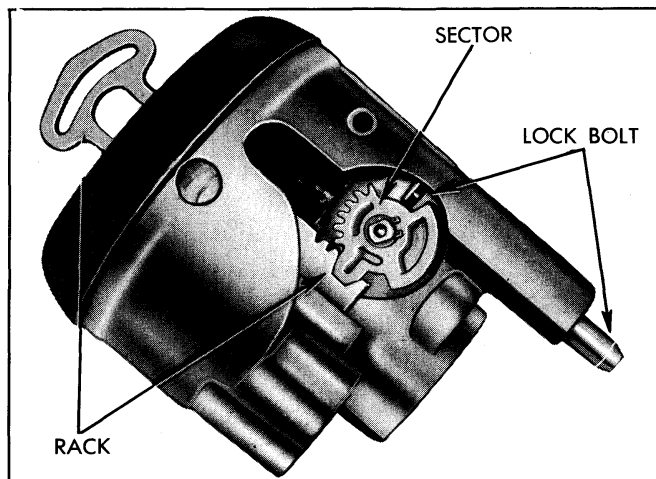

Fig. 3B-95--Installing Lock Bolt and Rack Assemblies
e. Install the lock bolt and engage it with the sector cam surface. Then install the rack and spring. The block tooth on the rack should engage the block tooth on the sector (fig. 3B-95). Install the external tilt release lever.
f. Install the lock bolt spring and retaining screw (fig. 3B-93). Tighten the screw to 35 lbs. in. (4 N·m).